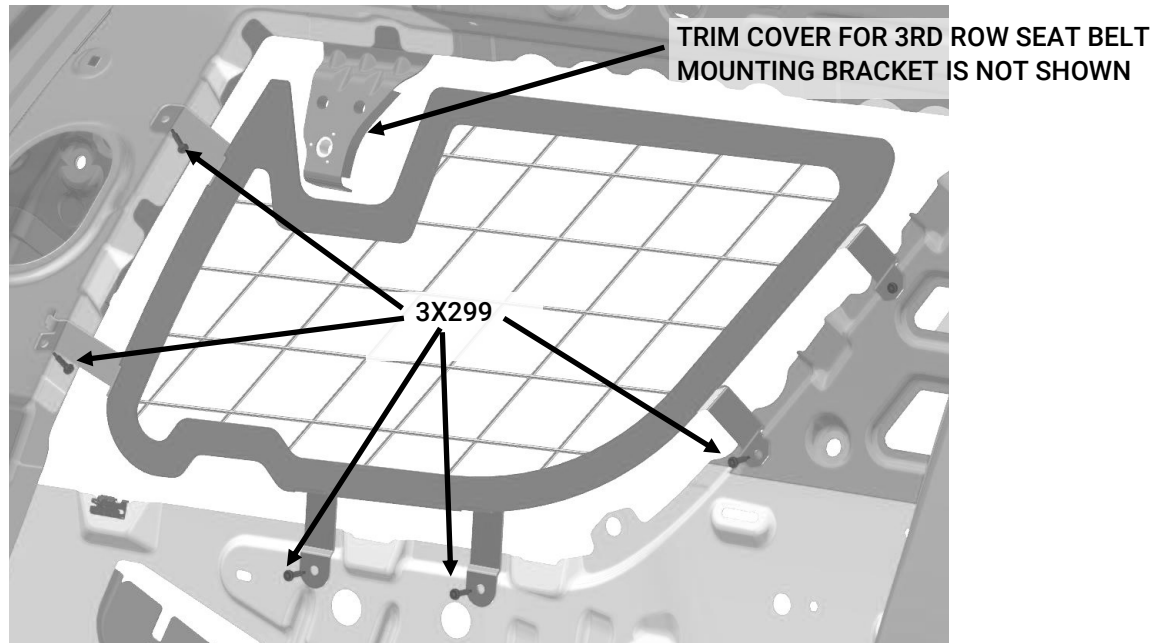

Fig. 3
C. Secure the guard to the vehicle with the remaining (5) self-drilling screws [3X299] using a phillips bit (Fig. 3).